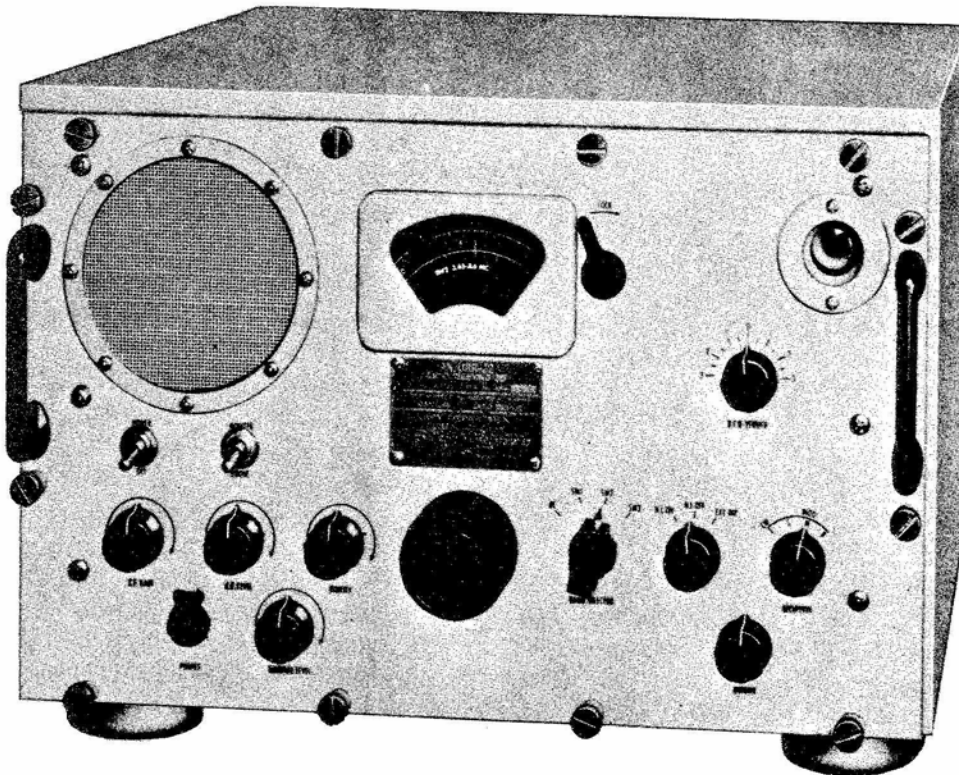

Figure 1-2. Radio Receiver R-302/URR-22
a. ELECTRICAL. (See Figure 1-2.)—Radio Receiver R-302/URR-22 is a fifteen-tube superheterodyne type receiver with a frequency coverage of 0.54 megacycles to 18.6 megacycles in four frequency bands as follows: